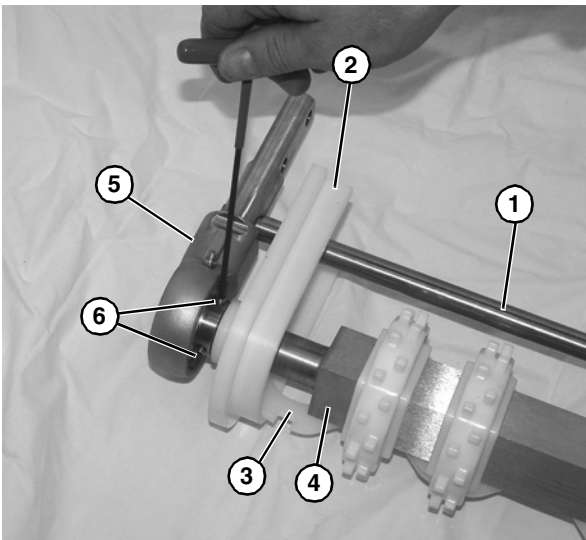

Figure 73
3. Install pinch guard shaft (**Figure 73, item 1**) onto pinch guard (**Figure 73, item 2**).
4. Install pinch guard (**Figure 73, item 2**) onto alignment bar (**Figure 73, item 3**), and onto each side of drive spindle (**Figure 73, item 4**).
5. Install bearing shaft assembly (**Figure 73, item 5**) onto rod (**Figure 73, item 1**) and drive spindle (**Figure 73, item 4**). Slide bearing shaft assembly onto the drive spindle on opposite side.
6. Use a hex wrench to install the two set screws (**Figure 73, item 6**). Use a torque wrench to tighten them to 54 in•lbs (6 N•m). Check after 24 hours of conveyor use.
7. Attach the bearing cover onto bearing shaft assembly (**Figure 73, item 5**).